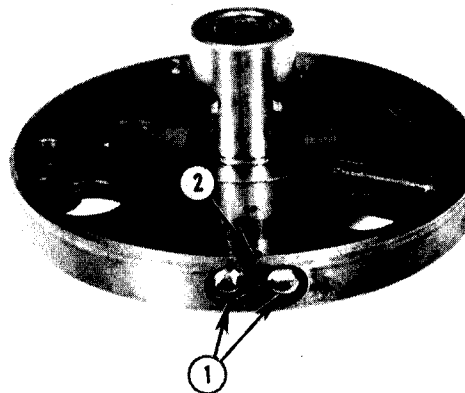

FIG. 4.60-ACCELERATION VALVE (2) LOCATION
11. The acceleration valves will not normally require service. They are located in the pintle circumference 180 degrees from the check valves as shown in No. 1, Fig. 4.60.
- b. Remove pin, No. 2, Fig. 4.60